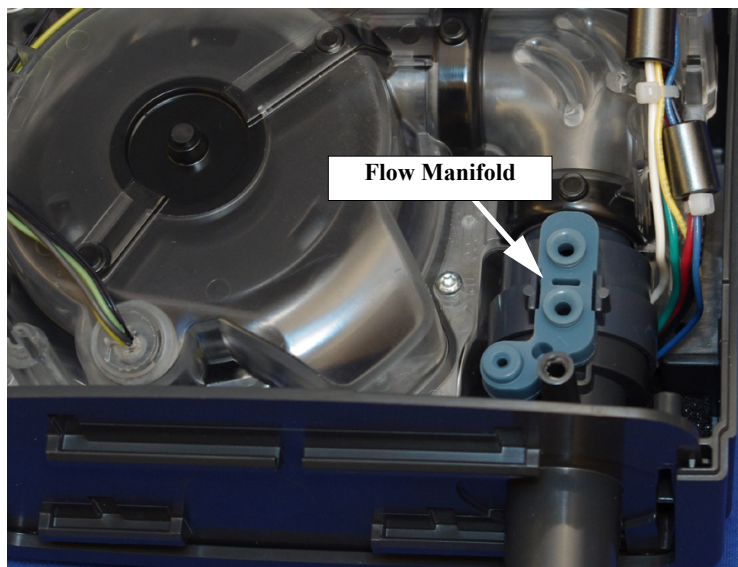

FIGURE 6-15: FLOW MANIFOLD
1. Place the Flow Manifold onto the Right Side Assembly as shown in Figure 6-15.